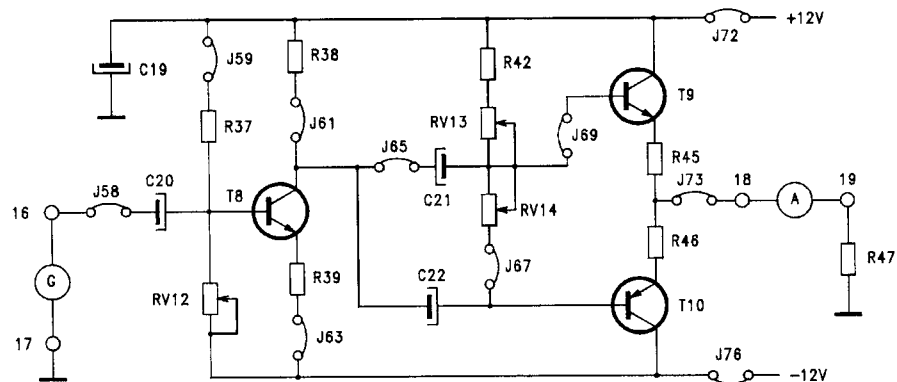

fig. B31.6
- From previous circuit, remove jumpers J70, J75 and insert J65, J67, J69, so to produce the diagram of figure B31.6